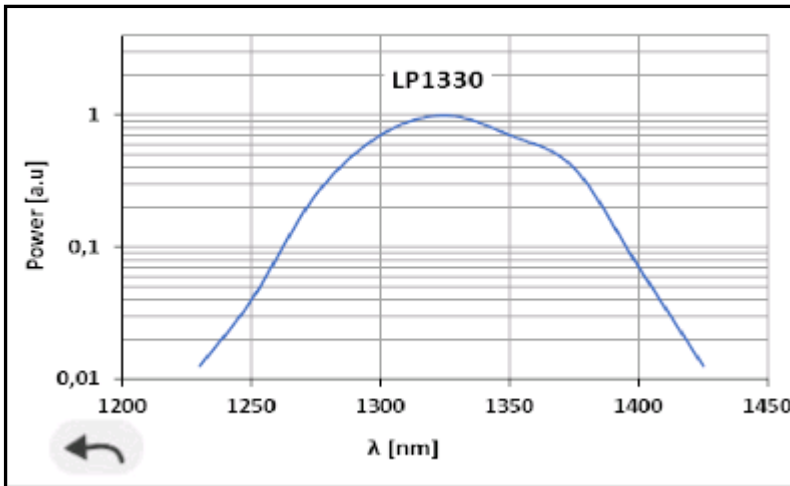

Figure 4. Spectrum view screen
- *Arrows (4)*: using the up/down arrows will increase/decrease the current percentage of the nominal output power by 1%.
- *Slide bar (5)*: it permits you to adjust the output power from 0% to 100%. While dragging the slide bar, it will be in yellow, and it will change to green once a value has been selected.
On the bottom of the screen, if we click on "Spectrum view" (6), we will see the spectral power distribution of the corresponding SLED (see **Figure 4** on next page). The arrow (7) enables to return to the initial screen.